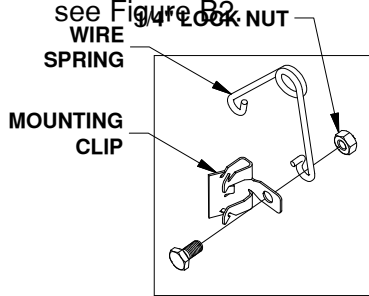
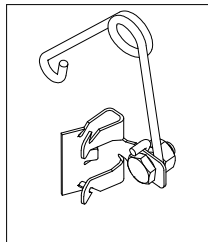

Figure B1:
Figure B2:
- Assemble kit.** Locate the 1/4" cap screw and nut, along with the wire torsion spring and mounting clip. Pass the 1/4" cap screw through the mounting clip and the wire spring, as shown in Figure B1. Thread the 1/4" lock nut onto the 1/4" cap screw. Tighten the lock nut just enough that the spring will stay in place but will still be able to rotate around the bolt if needed, see Figure B2.